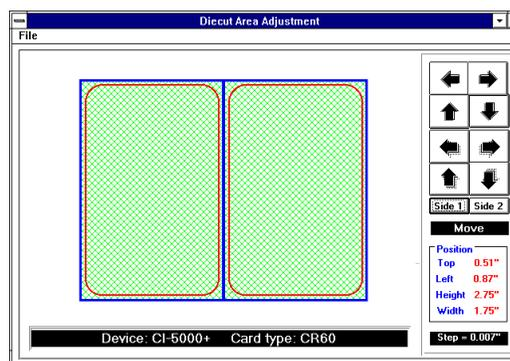

Figure 4-53. Diecut Area Adjustment Window
1. Choose the Diecut Tools icon (Figure 4-52) from the ID-4000 program group to display the Diecut Area Adjustment window (Figure 4-53).